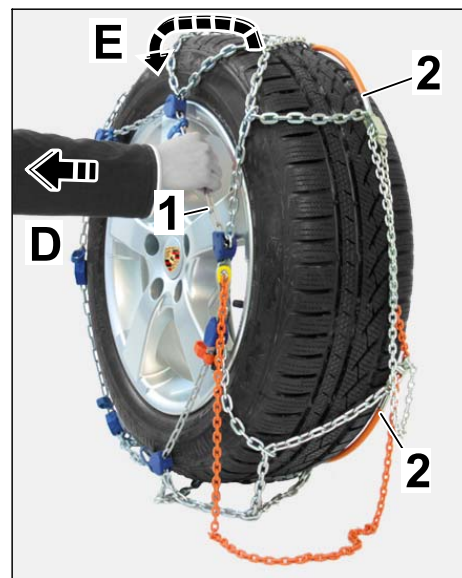

Figure 18
3.3.5 Hold the chain net above the centre of the axle and pull it away from the wheel (⇒ *Figure 18-D-*).
End of spring steel clip is rubbing slightly on the tire running surface (⇒ *Figure 18-E-*).